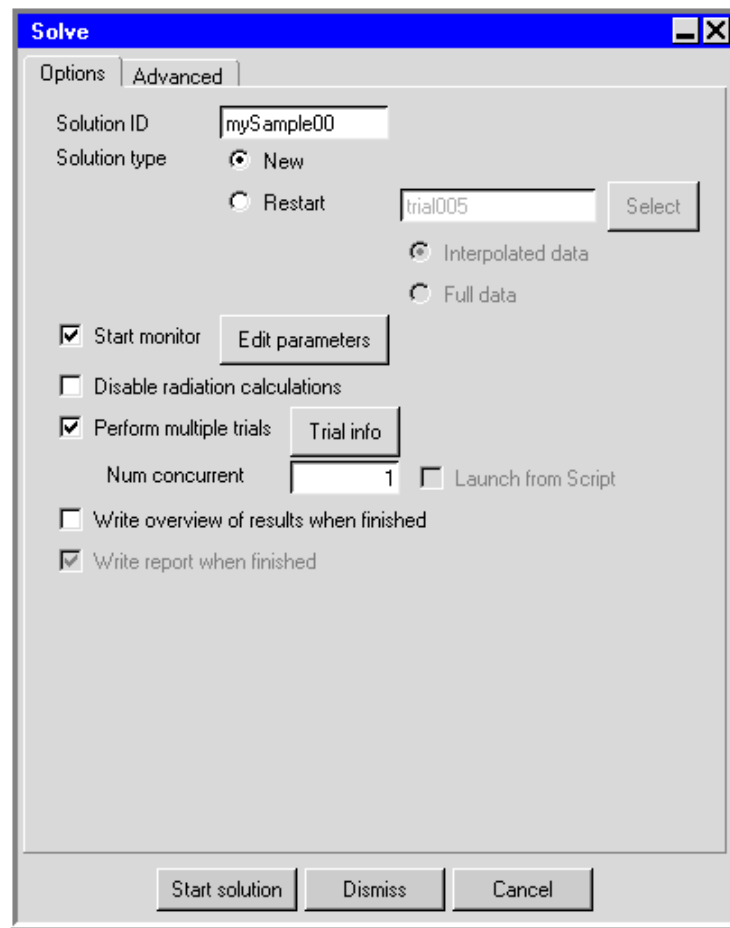

Figure 24.8.1: The Solve Panel
4. Set the solver controls for the trials. You will use the **Solve** panel to set the solver controls. (See Section 27.11 for more details on setting the solver controls.) To open the **Solve** panel (Figure 24.8.1), select **Run solution** in the **Solve** menu.